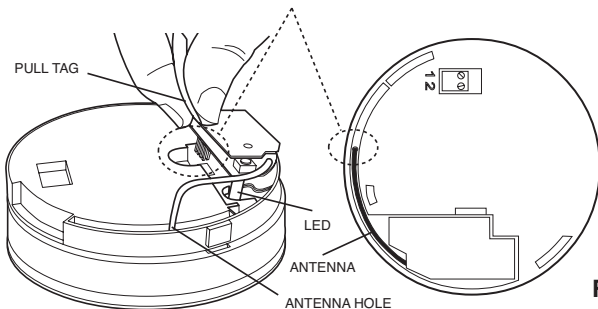

Figure 1
2. Remove the RF module from the packaging and using the pull tag, carefully insert into the back of the Alarm (see figure 1) - (some Alarm models may have the RF Module already fitted).